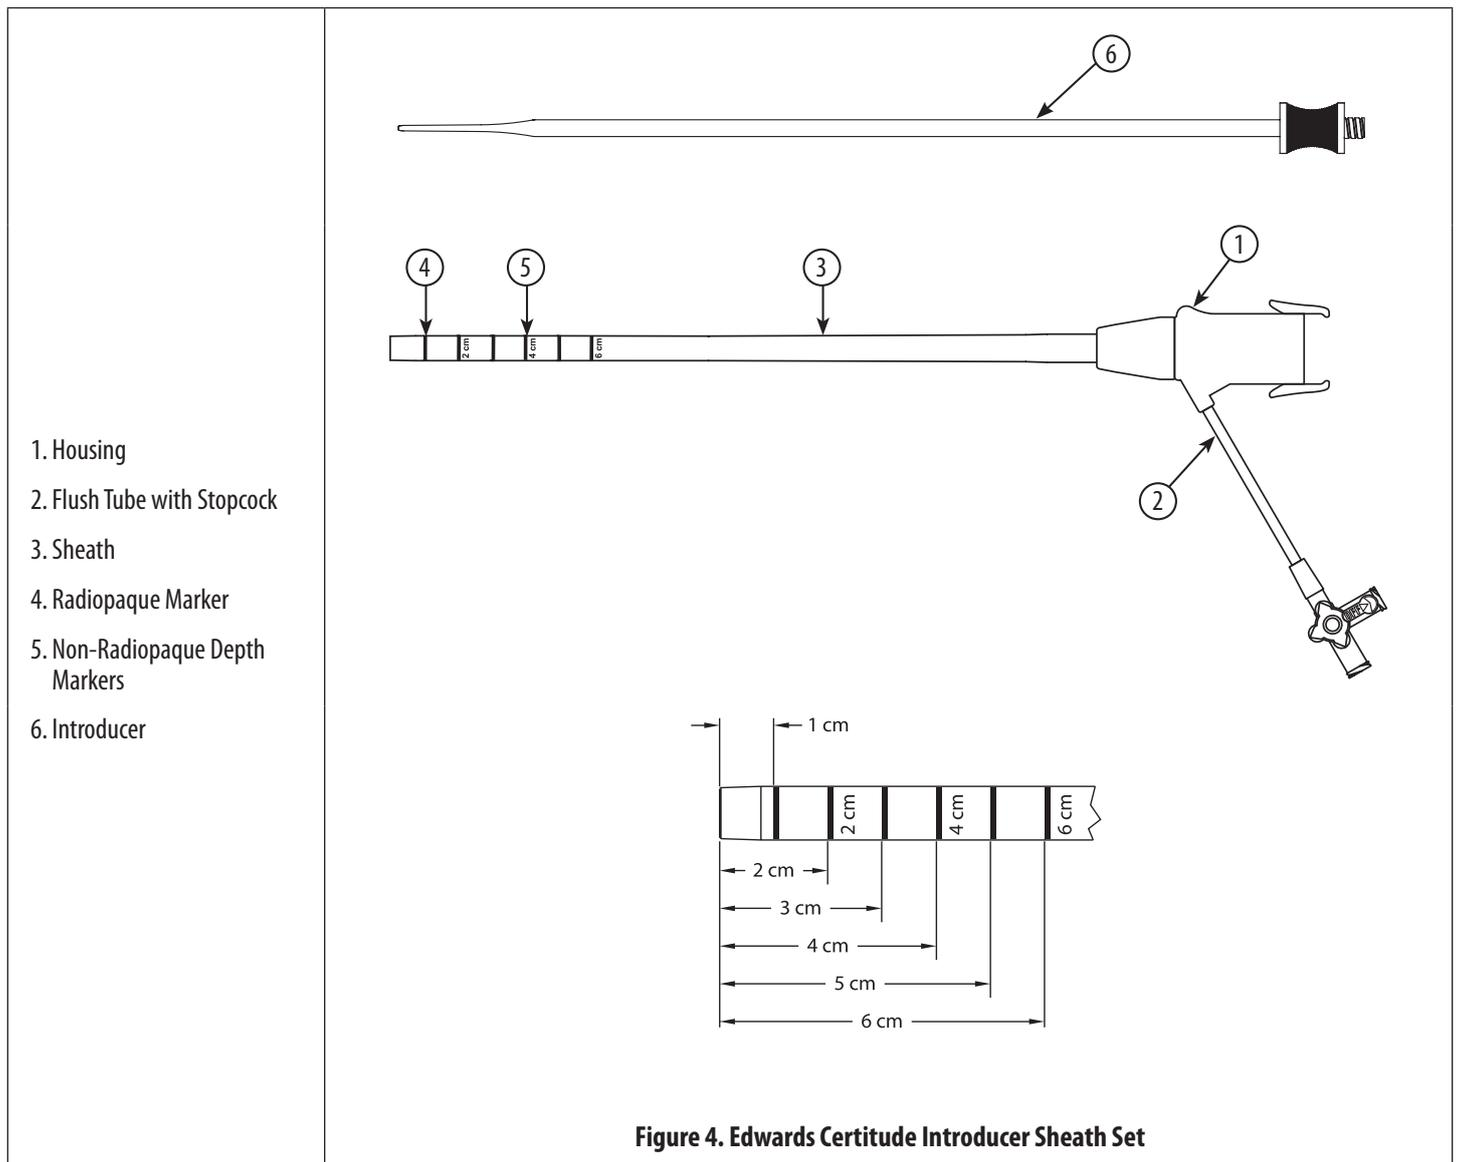

Figure 4. Edwards Certitude Introducer Sheath Set
• **Edwards Certitude Introducer Sheath Set (Figure 4)**